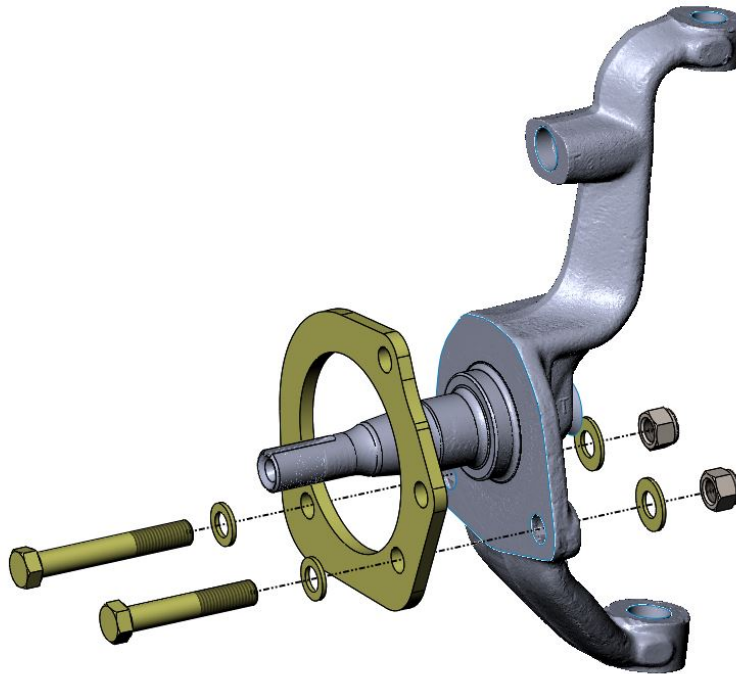

Figure 1 - Primary Caliper Mounting Bracket Installation
4. Install the Primary Caliper Mounting Bracket onto the spindle using the provided 7/16"-20 x 2.500" and a 7/16"-20 x 3.000" Grade 8 Hex Head Bolt. Each bolt will utilize a 7/16" AN Flatwashers under the head of the bolt along with a 7/16" SAE Flatwasher and 7/16"-20 Nyloc Nut on the treaded side. **NOTE:** Install the Caliper Mounting Bracket on the face of the spindle so that the 2 additional mounting holes are towards the rear of the car. The 7/16"-20 x 2.500" Grade 8 Hex Head Bolt with go thru the spindle and steer arm hole closest to the front of the car and the 7/16"-20 x 3.000" Grade 8 Hex Head Bolt will go in the remaining hole in the spindle and steer arm. Once all bolts have been installed, they can be torqued to 60 lbs/ft. Figure 1 on the next page shows the Primary Caliper Mounting Bracket installation to the spindle.